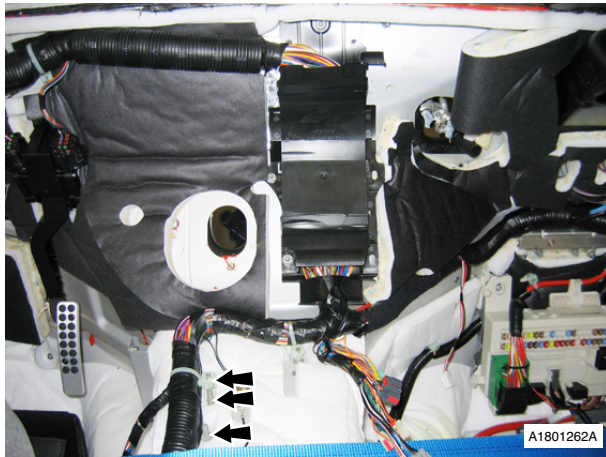

Fig. 29
68. Remove nuts (x3) harness to front bulkhead (see Fig. 29).